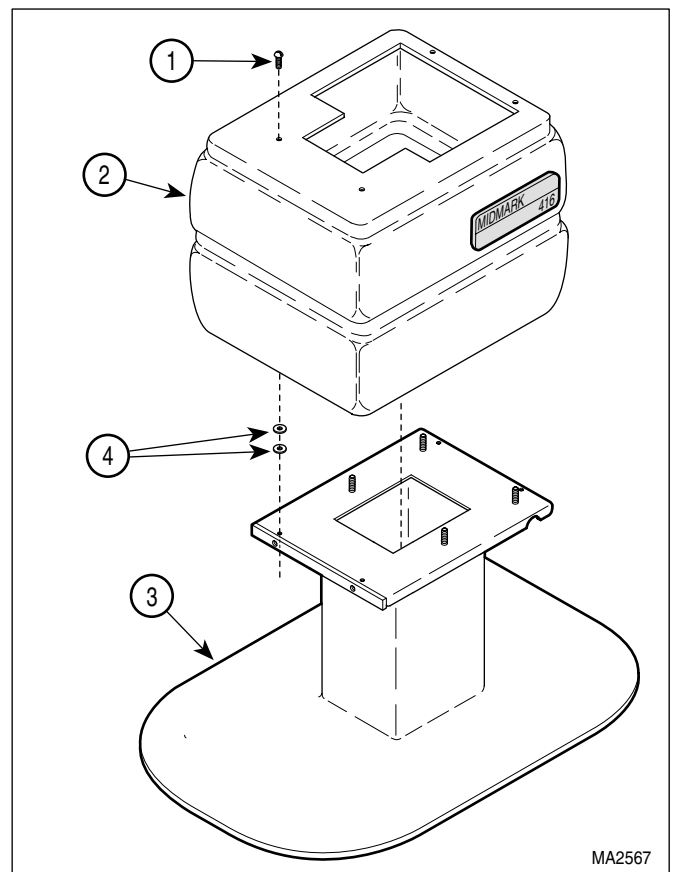

Figure 4-3. Shrouds
- (1) Remove table top (Refer to para 4.3).
- (2) Remove four screws (1, Figure 4-3) and base outer shroud (2) from base subassembly (3).
- (3) Remove shims (4), making sure to note number and location of shims for installation.